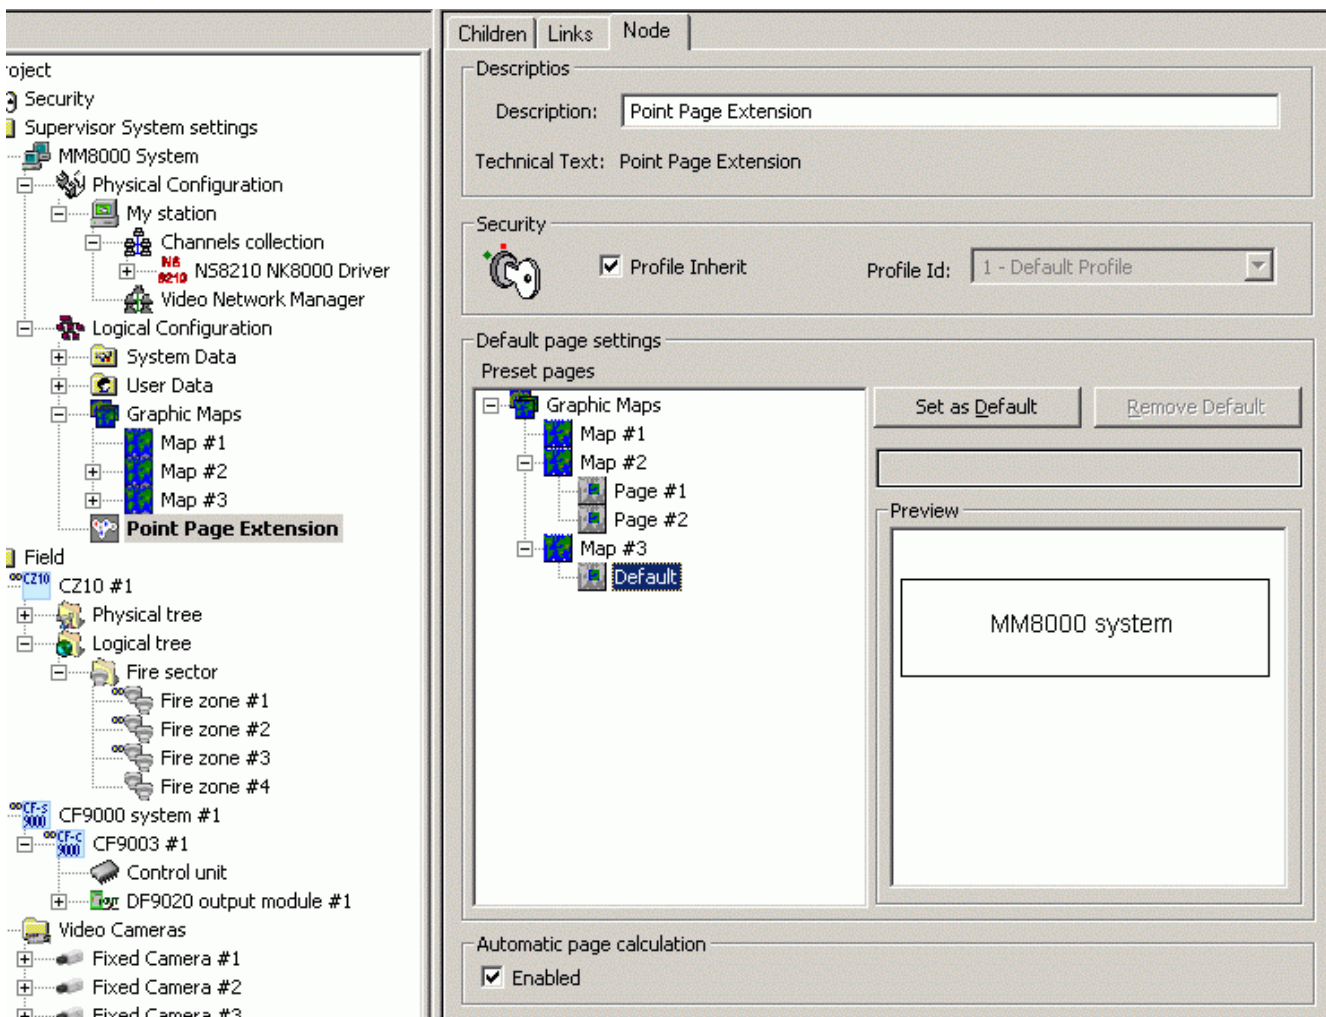

Fig. 22 Setting the default page
8. Select 'Set as Default' (see Fig. 22).